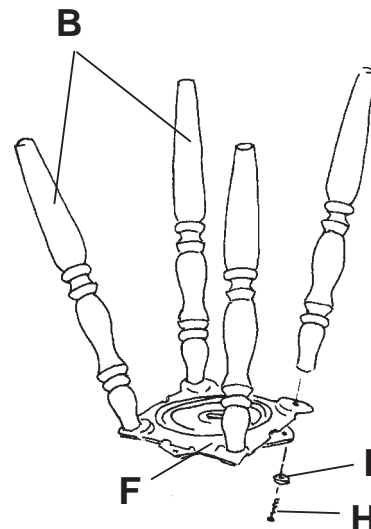

FIG. 2
2) The top ends of the legs are pre-drilled. Fasten one leg (B) to each corner of the swivel (F) with a 5/16" x 3" lag bolt (H) and a 5/16" washer (I) as shown in FIGURE 2. Do not over tighten the bolts as you may strip the wood.